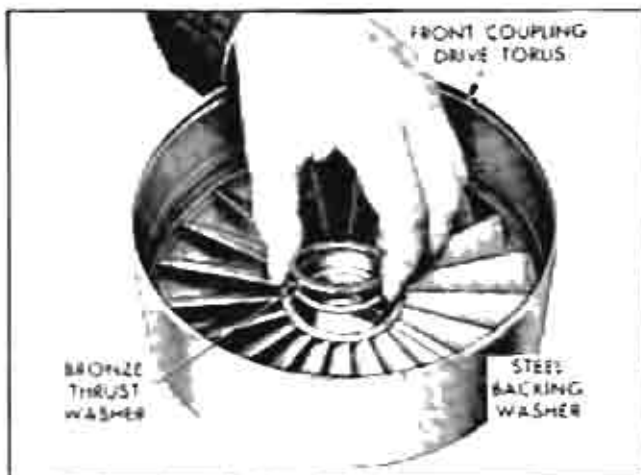

Fig. 121 Installing Thrust Washers in Drive Torus
2. Install steel, then bronze thrust washer in drive torus member (Fig. 121).